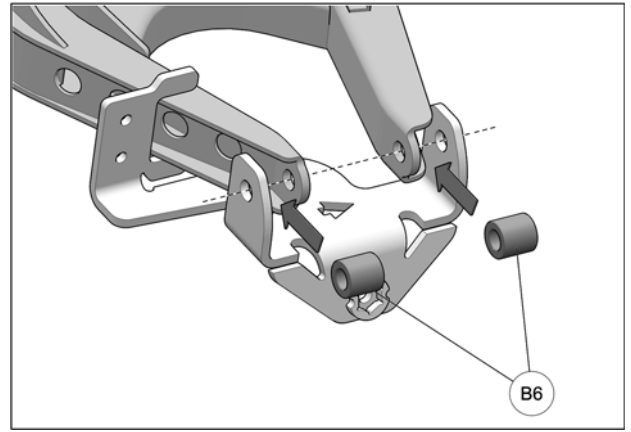

Fig. 7
7. Insert bushings (**B6**) between anchor bracket and suspension arm. Align anchor bracket and bushing holes with suspension arm bolt holes. See Fig. 7